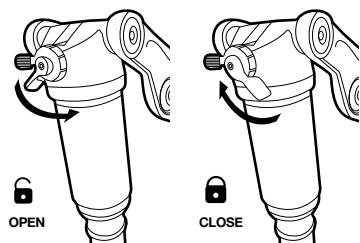

Figure 21. Open position (left) and closed (right) of the shock
2. If the padlock is open, it means that your shock is in open position (*Figure 21*).
3. If the padlock is closed, it means that your shock is locked out (*Figure 21*).
4. To move from one position to the other, you simply need to move the blue lever with your index figure in the direction indicated by the arrows in *Figure 21*.